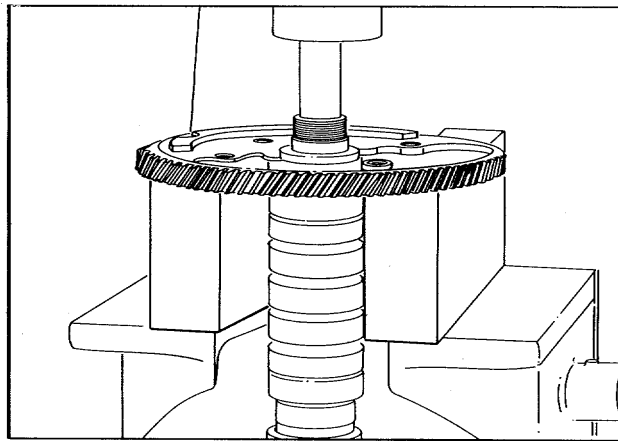

Figure 1. Removing Camshaft Gear
2. Place the camshaft and gear assembly in an arbor press with the gear suitably supported as shown in Fig. 1.